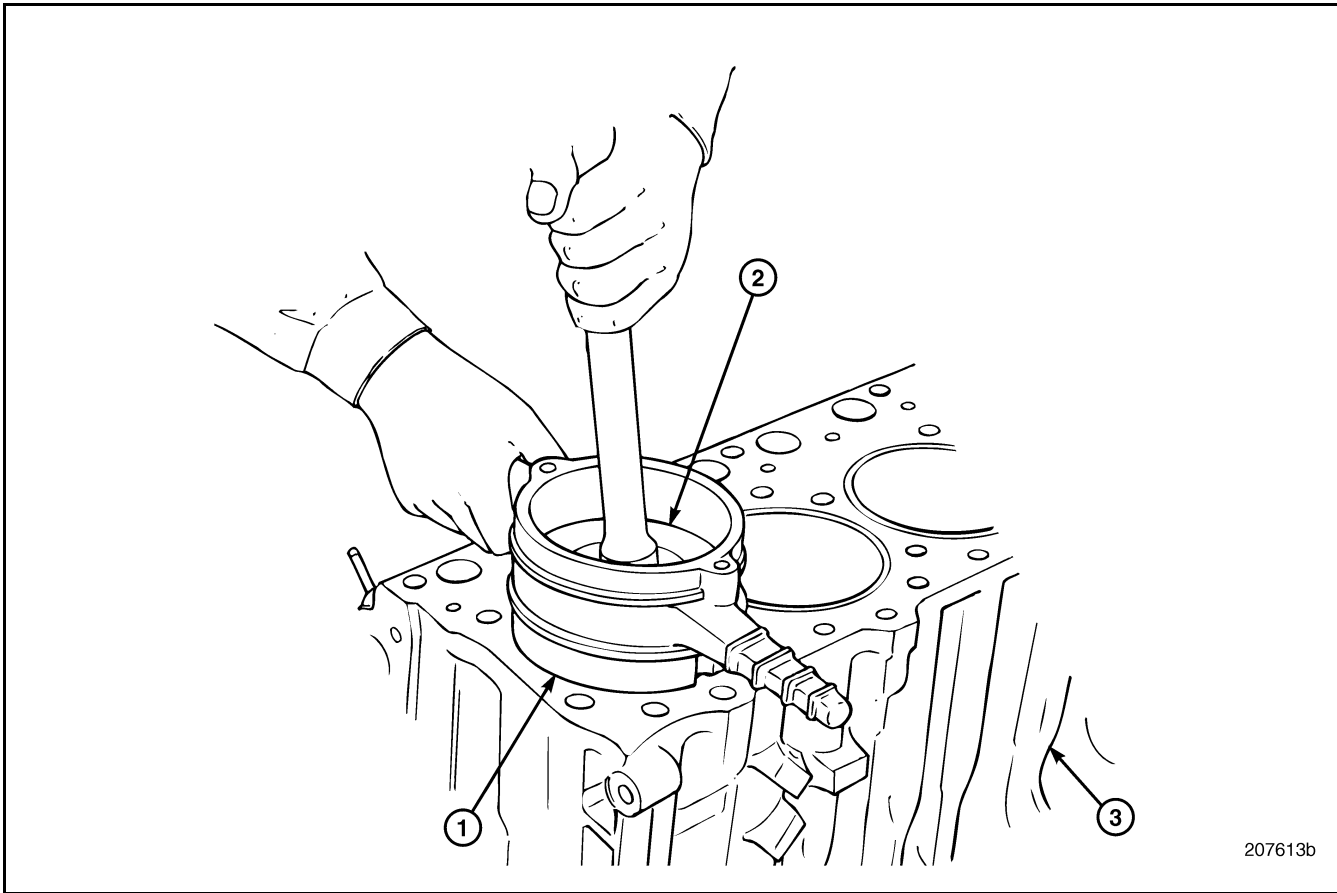

Figure 242 — Pushing Piston into Cylinder Sleeve
11. While applying downward pressure to the ring compression tool (1) to keep it in contact with the cylinder sleeve as shown in Figure 242, use a hammer handle to push the piston (2) through the tool. Continue pushing on the piston until the top ring has passed into the cylinder sleeve.